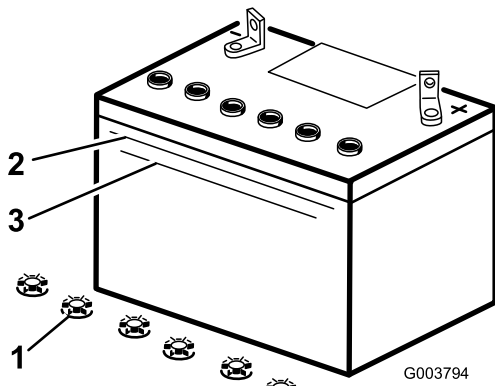

Figure 36
3. Look at the side of the battery. The electrolyte must be up to the Upper line (Figure 36). Do not allow the electrolyte to fall below the Lower line (Figure 36).
3. Remove the filler caps from the battery (Figure 36).
4. Slowly pour distilled water into each battery cell until the electrolyte level is up to the Upper line (Figure 36) on the battery case.
level is up to the Upper line (Figure 36) on the battery case.